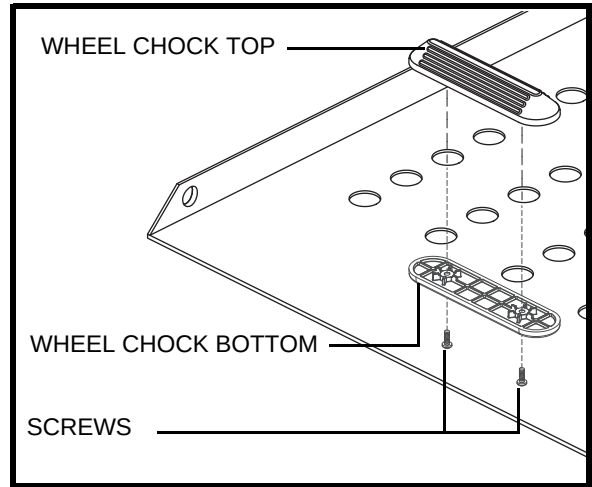

Figure 12. Wheel Chock Installation
6. Position the wheel chock bottom on the underside of the platform, aligning it with the wheel chock top. **See figure 12.**
7. Secure the wheel chock sections to the platform using the supplied hardware. **See figure 12.**